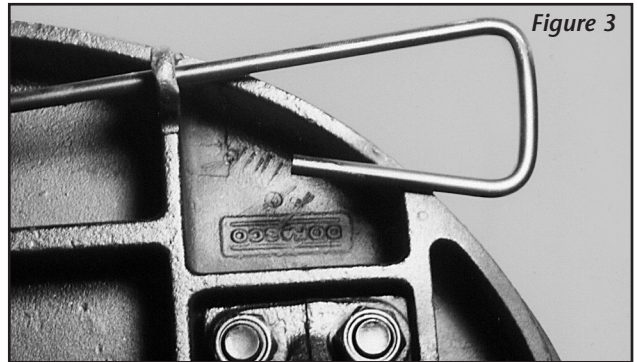

Figure 3
4. Install the release handle (16) through the guide slot in the casting. Install the release lever (15) on the handle (16). The open end of the release handle must face the rear of the casting, as shown in *Figure 3*.